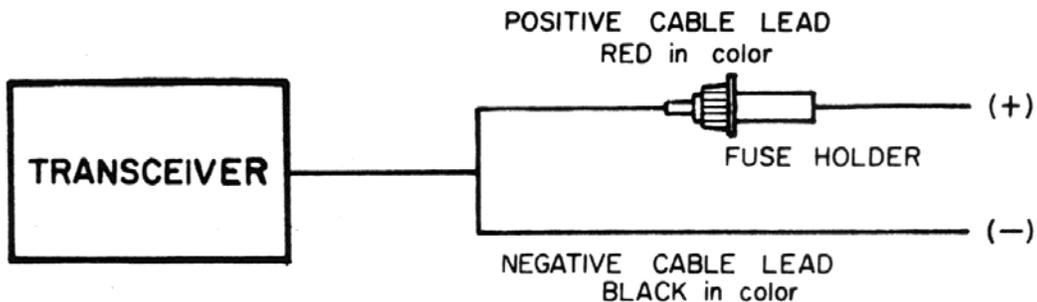

FIGURE 1, D.C. POWER CABLE, LEAD IDENTIFICATION DIAGRAM
2. DC Power Connections (Figure 1)